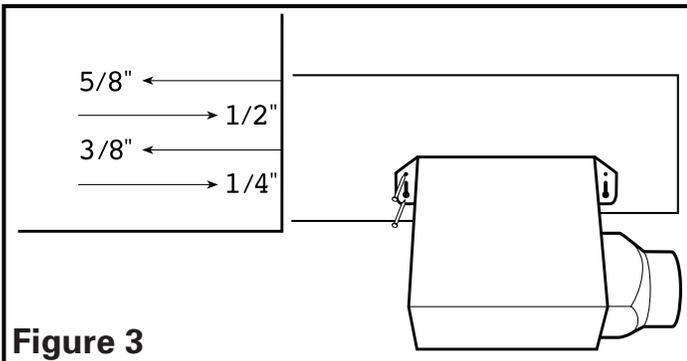

**Figure 2**
4. Select the most convenient electrical knockout hole and insert the knockout plug into the 2nd knockout hole (**Figure 2**).